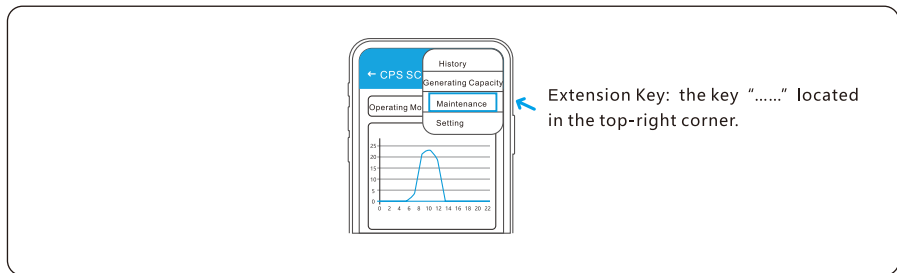

Figure 5.22 APP homepage setting
Step 2 Click the Extension Key, and select Setting in the prompt manual, as shown in Figure 5.22.